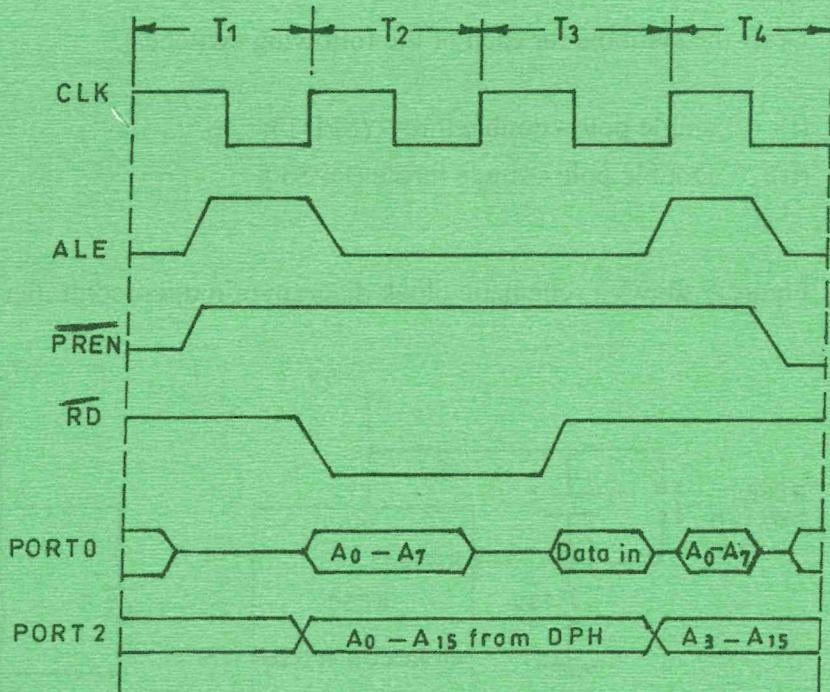

Fig. 4
- (ii) Figure 4 represents timing waveforms for a microcontroller memory read cycle. Explain the memory read process. (8 marks)